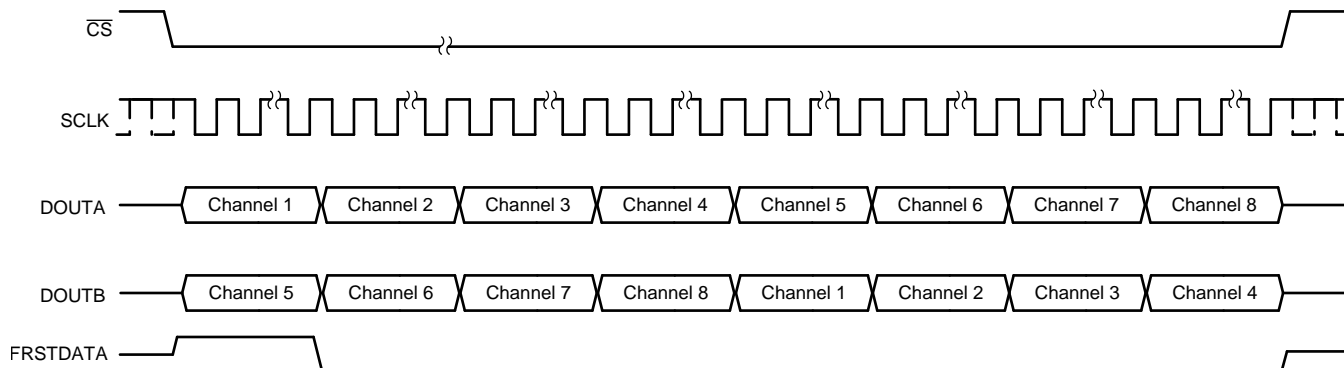

Figure 69. Data Read Back in the Serial Interface Using Either DOUTA or DOUTB Timing Diagram
- The conversion data can be read out of the device using only one of the two serial output lines, DOUTA or DOUTB. In this case, using DOUTA for output data read back is recommended because channel 1 data appear first on DOUTA followed by the data for other channels in ascending order. To read the data for all channels, provide a total of $14 \times 8 = 112$ SCLK cycles for the ADS8578S. This entire data frame can be created within a single \overline{CS} pulse or each group of 14 SCLK cycles can be individually framed by the \overline{CS} signal. The primary disadvantage of using just one data line for reading conversion data is that the throughput is reduced if a data read operation is performed after conversion. Figure 69 illustrates this operation.
- Alternatively, only DOUTB can be used for reading the conversion data from all channels. In this case, everything else remains the same and the output bit stream contains data for all channels in the following order: channels 5, 6, 7, 8, 1, 2, 3, and 4 for the ADS8578S. Figure 69 illustrates this operation.